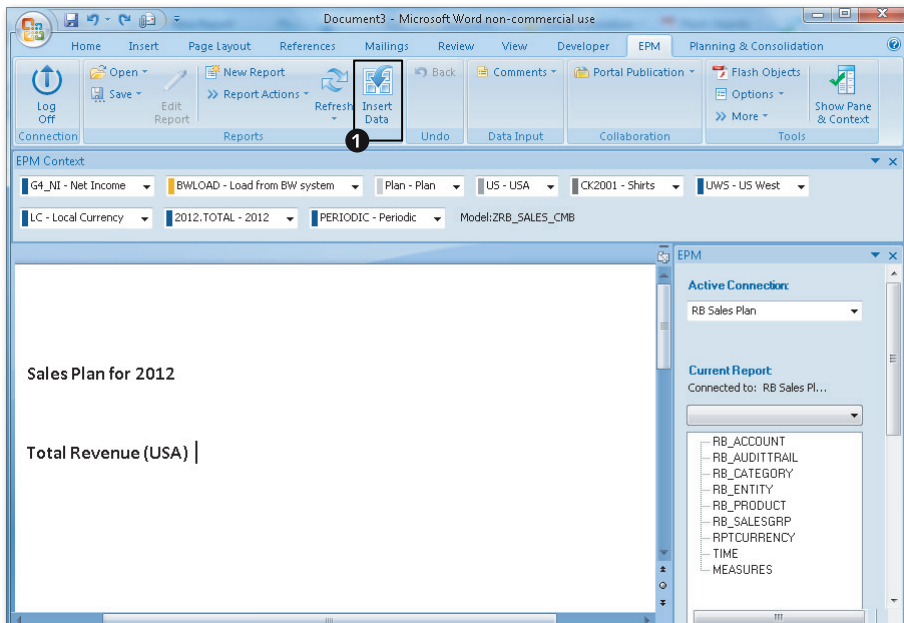
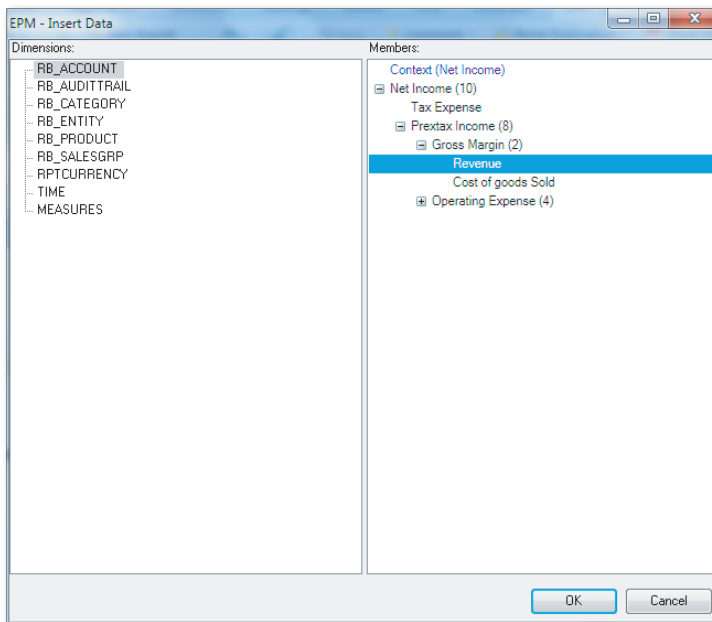
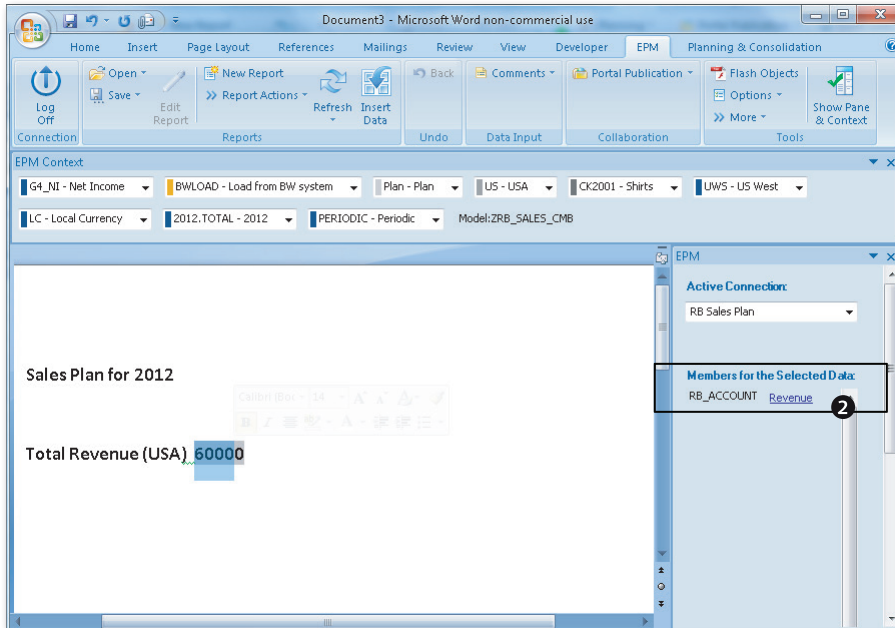

Figure 7.40 Integrating SAP BPC Data into Word—Part A
Figure 7.41 Integrating SAP BPC Data into Word—Part B
Figure 7.42 Integrating SAP BPC Data into Word—Part C
1. Access the EPM add-in tab from the Word interface. Connect to an SAP BPC model using the same steps followed to connect to SAP BPC from the Excel interface. After you are connected, the commands to interface with the data in SAP BPC are available to use (Figure 7.40).
- Open a new Word document. Highlight the cursor anywhere in the document, and then click INSERT DATA (Figure 7.40, ❶). A dialog box is presented in which you can specify the member selections for each dimension (Figure 7.41). When a value is not selected for a dimension, the member value from the EPM CONTEXT pane is used. The value is retrieved for the selections and displayed in the document. Place the cursor in the place where you added the object to view the selections. The selections are displayed in the EPM pane (Figure 7.42, ❷). The custom selections are displayed for any selection that does not match the context member value for the dimension.